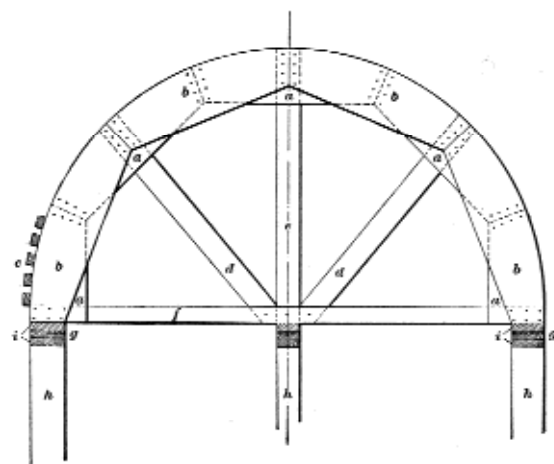

FIG. 63.
**112.** For arches of considerable span, centers more strongly built are necessary. Fig. 63 shows a good form of construction. At *a* and *b* are represented the bearers, break-